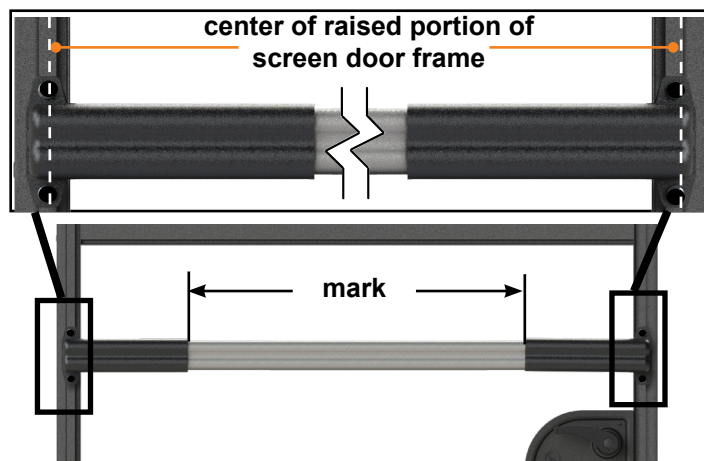

Fig.20
3. From inside the screen door, dry fit the assembly to the door's width. Align the mount brackets (Fig.20) on both sides of the screen door so that the bar rests parallel to the frame of the door. Each sleeve mount bracket should be centered vertically on the raised portion of the door frame. (Fig. 20).
4. Mark the push bar dimensions using a non-permanent marker (Fig.20).
3. From inside the screen door, dry fit the assembly to the door's width. Align the mount brackets on both sides of the screen door so that the bar rests parallel to the frame of the door. Each sleeve mount bracket should be centered vertically on the raised portion of the door frame. (Fig. 20).